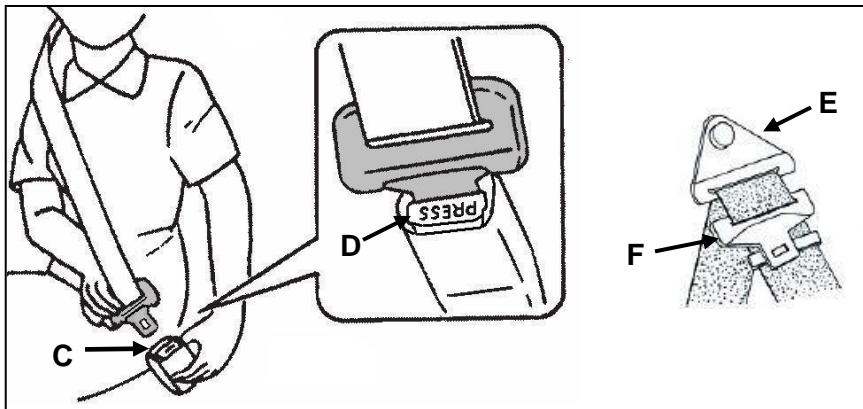

Figure 3.3.3
See Figure 3.3.3. To fasten the seat belt, pull out the belt slowly and without pause, push buckle into lock (C) until you hear a light click. If the belt binds when pulling it out, release the belt and pull out again.